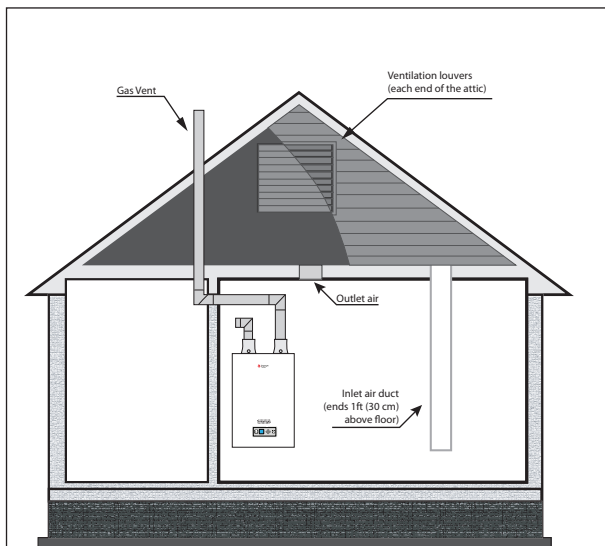

Fig. 3 - All Combustion Air from Outdoors Through Ventilated Attic
- Where directly communicating with the outdoors or where communication to the outdoors is through vertical ducts, each opening shall have a minimum free area of 1 sq. in./4000 Btu/hr [645 mm² per 1,172 W] of total input rating of all equipment in the enclosure. *See Fig. 3 below.*